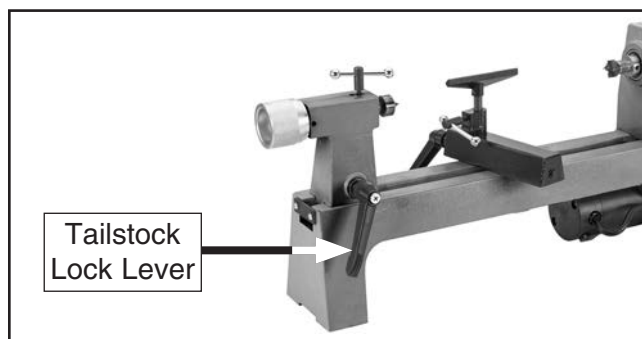

Figure 11. Location of tailstock lock lever.
1. Loosen tailstock lock lever and move tailstock to desired position along bed (see **Figure 11**).